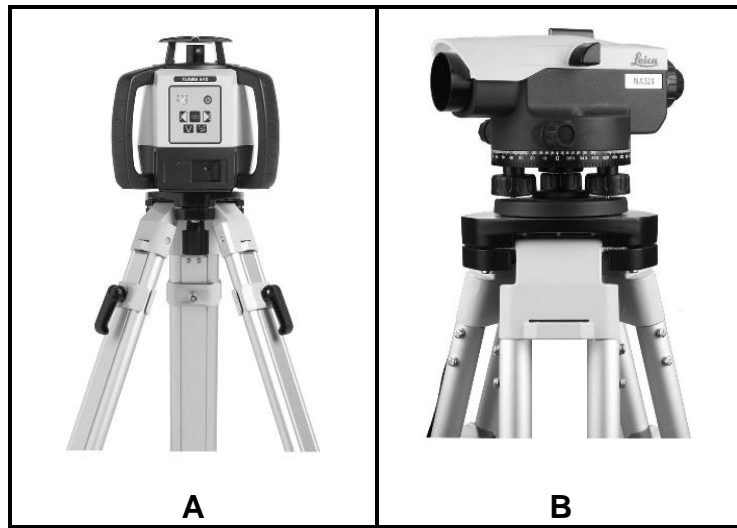

FIGURE 1.5
1.5 FIGURE 1.5 below shows tools that are used on a construction site.